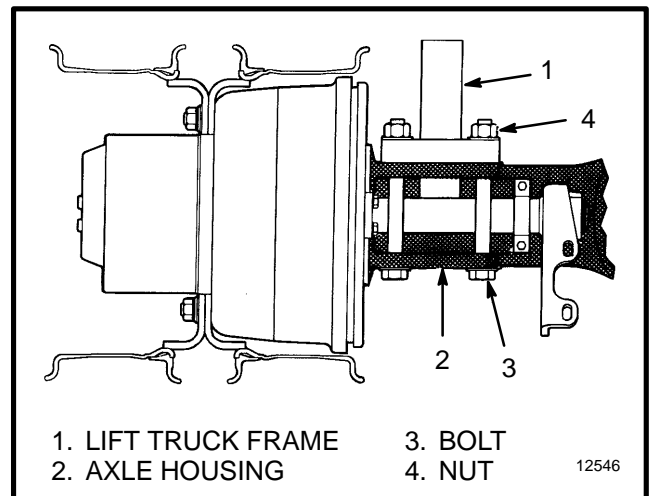

FIGURE 1. AXLE MOUNT
7. Use a lifting device (floor jack or the forks of a lift truck) to remove the drive axle. Put the lifting device under the axle to give it support. Remove the bolts and nuts that hold the axle to the frame. See FIGURE 1. Remove the drive axle from the lift truck frame. Clean all parts in solvent and dry with compressed air.
1. **H3.50-5.00XL (H70-110XL), S/E3.50-5.50XL (S/E70-120XL), and H6.00-7.00XL (H135-155XL) units.** Use the following procedure to remove the tie rods on these lift trucks (see Figure 1 and Figure 2):
1. Use the following procedure to install the tie rod to the spindle arm or steering cylinder (see Figure 1, Figure 2, and Figure 5):